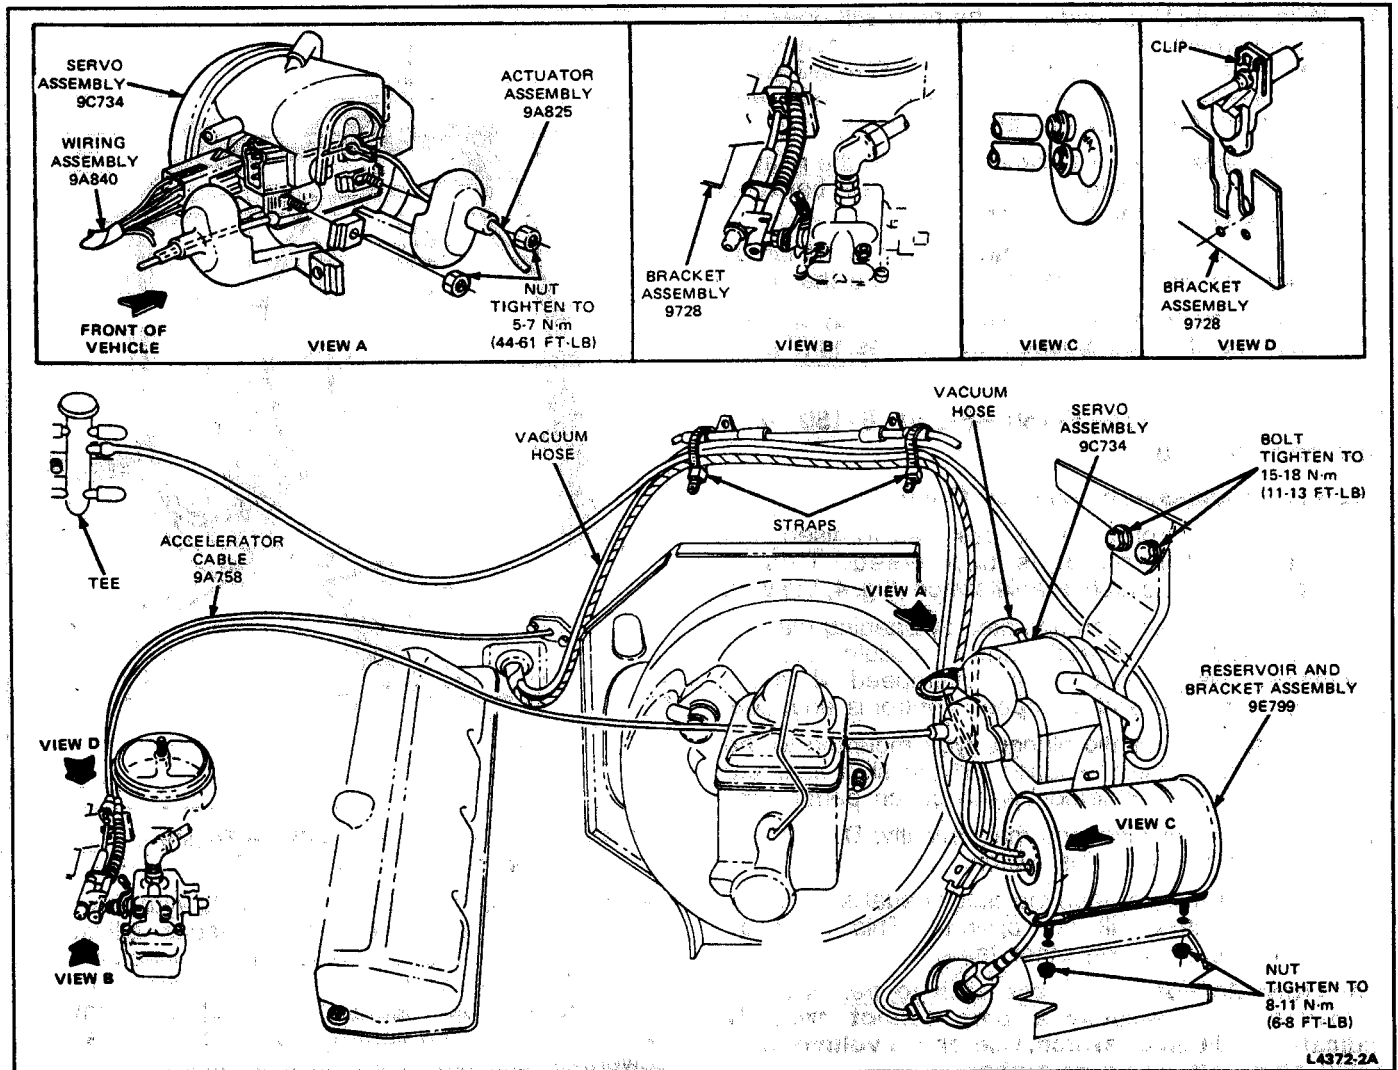

FIG. 19 Servo and Bracket Installation—F-250—F-350 w/6.9L Diesel Engine
1. Locate vacuum reservoir on left hand apron, refer to Fig. 19. Disconnect vacuum hose at the servo and connect hose to a vacuum gauge with a minimum range of 0-85 kPa (0-25 inches of mercury).